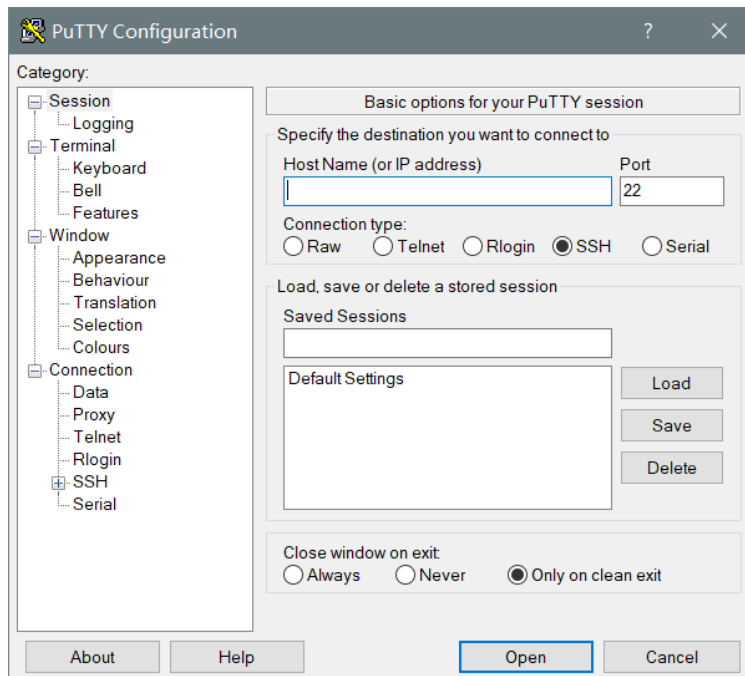

Figure 1.1: PuTTY Launch Window
2. Launch PuTTY and a window similar to fig 1.1 below should show up: